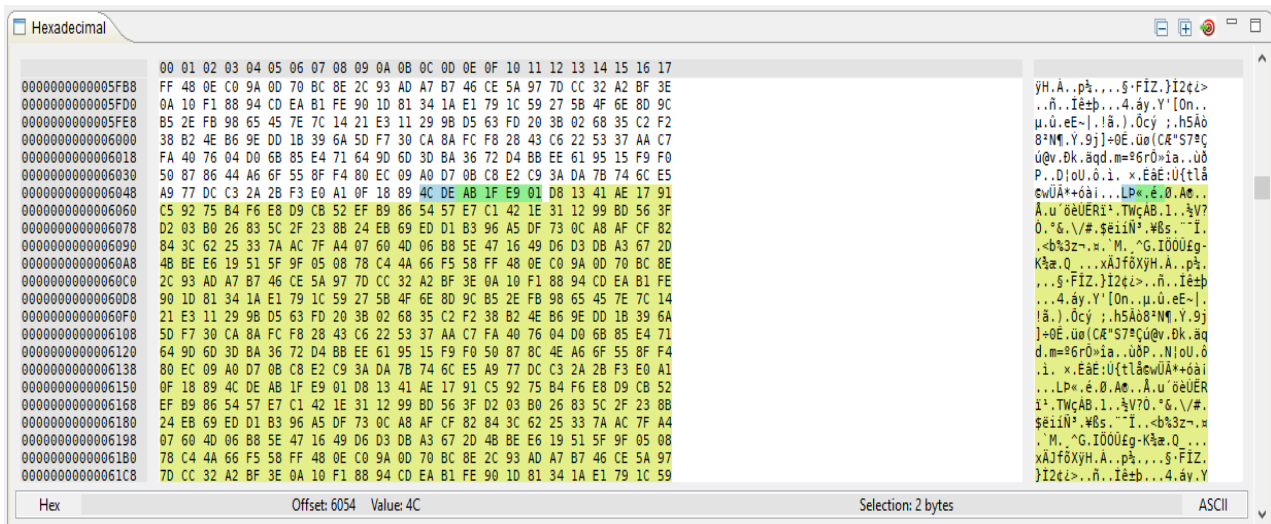

Figure 15: Hexadecimal View with Standard Sections
- The bytes related to the selected element in the Content Details View are highlighted. This selection is represented in pink on Figure 15.